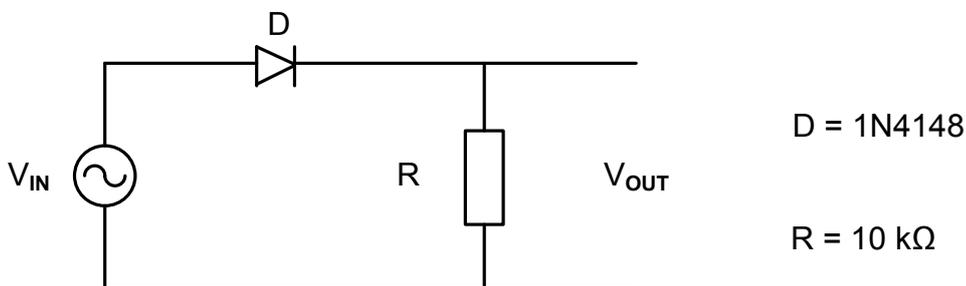

FIGURE 4.7.1
- 4.7.1 Construct the simple series clipper circuit in FIGURE 4.7.1 below, on the breadboard in FIGURE 4.7.2 below.